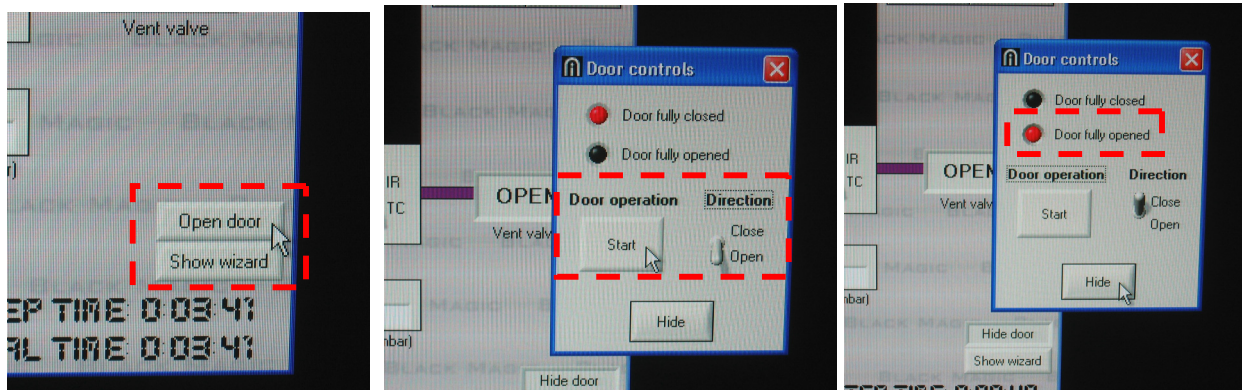

Figure 10. Open door button (left), initial door menu before opening (center), final door menu after opening (right).
- 14- Left click on *Open Door* (Figure 10, left)—a Door Controls Window will open. The *Door Fully Closed* red indicator must be present (Figure 10, center). To open the door, make sure the *Open* direction is selected, and then left click on *Start*. The lid will open automatically. **CORAL must be engaged in order to raise the chamber lid. Also, the chamber enclosure door must be closed.** The *Door Fully Opened* red indicator must appear at the end of the step (Figure 10 right). If not, check again the direction of movement of the door is *Open* and push *Start* again. Don't open the chamber enclosure door UNTIL the *Door Fully Opened* red indicator appears.